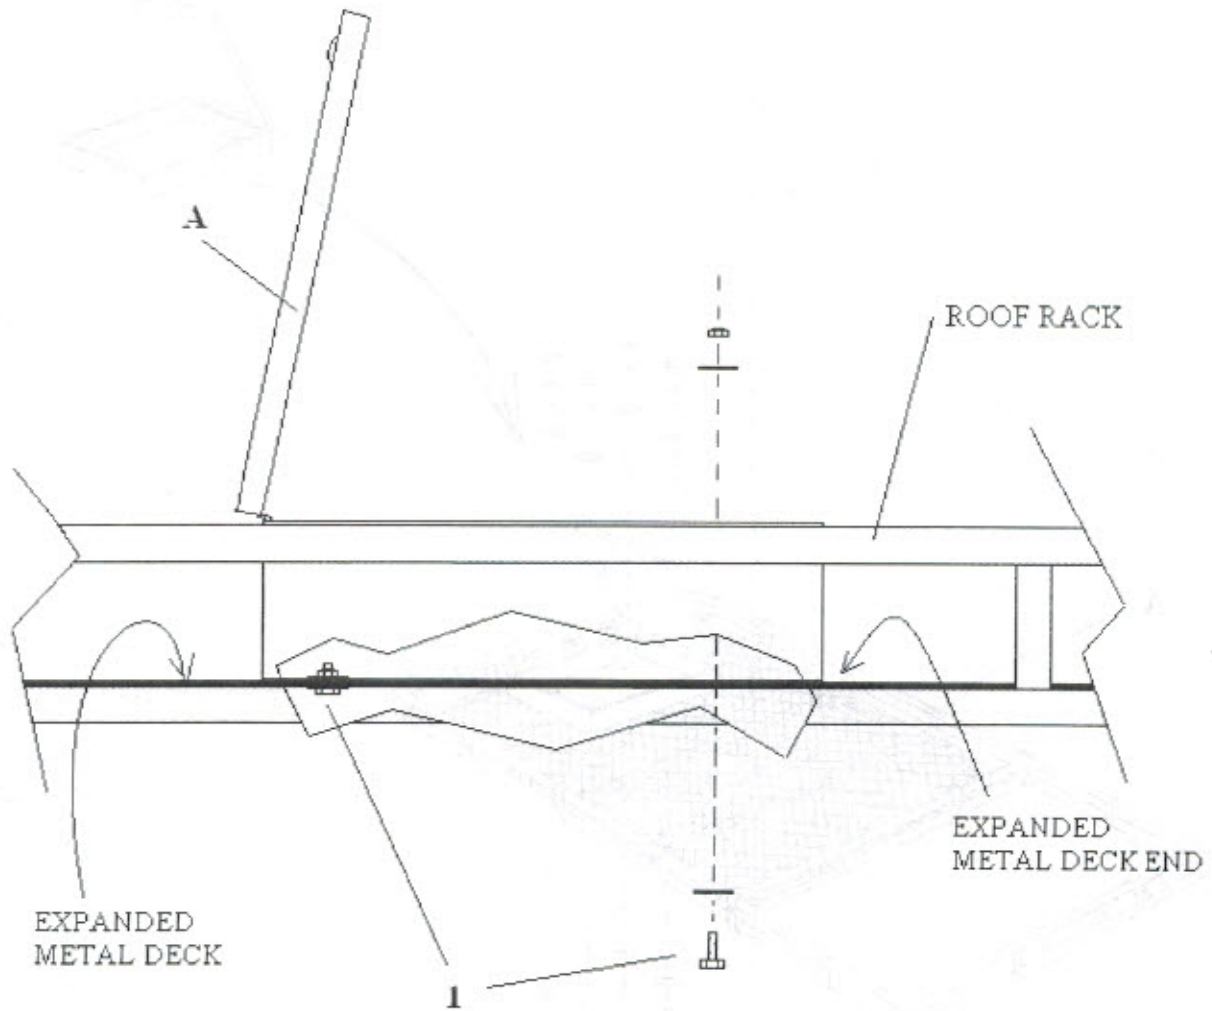

Fig. 2
- 4- Remove bolts and fender washers #1 located in Plastic Bag #1 of your hardware kit listed on page 2 and push them up into the tool box from the underside of the expanded metal deck as shown in Fig. 2 page 4. While holding each bolt and fender washer from the underside of the Gobi roof rack place another fender washer onto the exposed bolt within the tool box followed by a lock nut repeat to all four bolts finger tighten at this time.